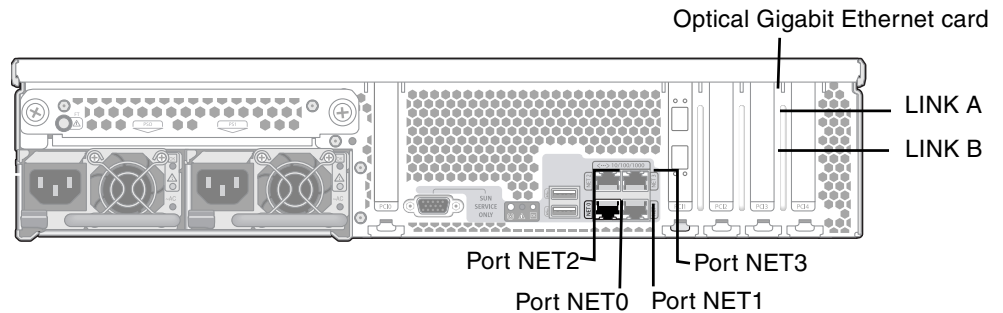

FIGURE 5-42 Dual Server HA NIC Ports
The dual-server Sun StorageTek 5320 NAS Gateway Cluster System is commonly configured with four on-board copper gigabit ports and two dual-port Gigabit Ethernet cards (FIGURE 5-42).
- Connect a Cat5 (for a 100BASE-T network) or Cat5e (for a 1000BASE-T network) Ethernet cable from your LAN to the NIC NET1, NET2, or NET3 port on the back of each of the servers (see FIGURE 5-42 for NIC port locations).
- Connect an optical network cable from the network to the top (LINK A) and connect another optical network cable from the network to the bottom (LINK B) optical Gigabit Ethernet connector on the back of each of the servers (see FIGURE 5-42 for NIC and optical Gigabit Ethernet port locations).